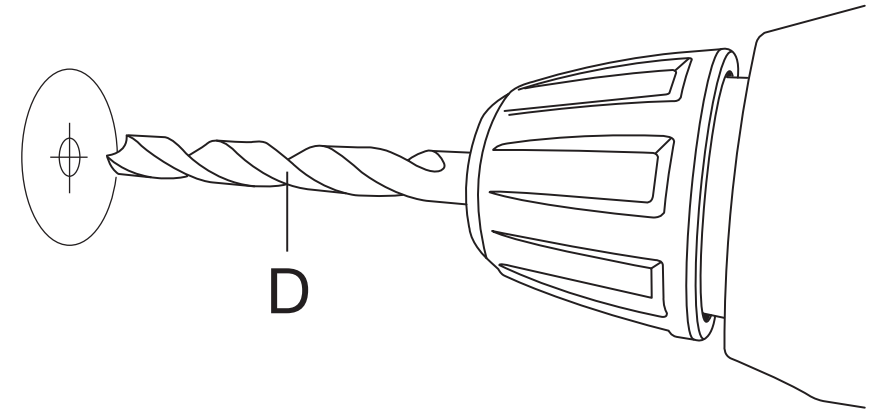

Figure 2
2. Drill pilot hole: refer to Figure 2: use the supplied $\text{Ø}10.2\text{mm}$ drill bit (D) to drill through the centre of the marked location position. Wear eye protection when drilling.